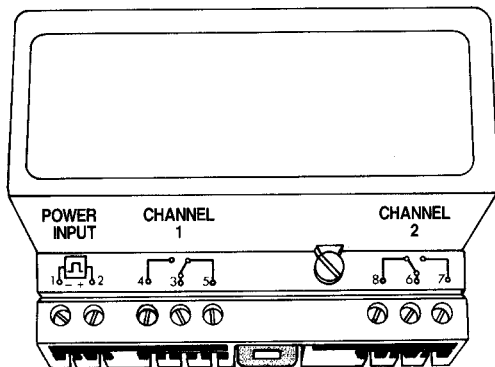

Figure 7. EC72D Terminals
1. Loosen terminal cover screw (see Figure 7) and set terminal cover aside. The screw is captive to the control. Wiring access for power input and relay output is provided at bottom of terminal block. Terminals can accommodate 12 to 24 AWG wire.
2. Wire 12 Vdc or 24, 120 or 240 Vac to terminals 1 and 2. See Figure 7 at right. Determine voltage according to the model selected.